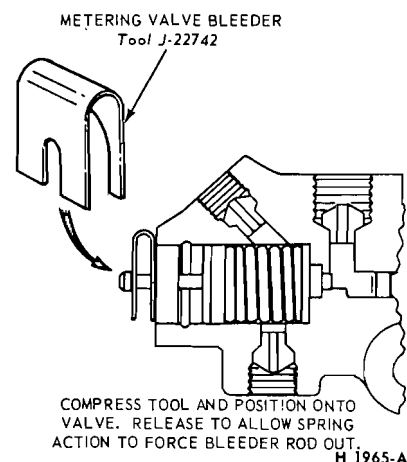

FIG. 6 Disc Brake Metering Valve Bleeding Tool
9. **If the vehicle is equipped with disc brakes, repeat steps 4 through 7, starting at the right front disc caliper and ending at the left front disc caliper. On all models, except Pinto, equipped with disc brakes, the metering valve release rod must be pulled outward and held a minimum of 1/16 inch (Fig. 6) while bleeding the primary brake system.**